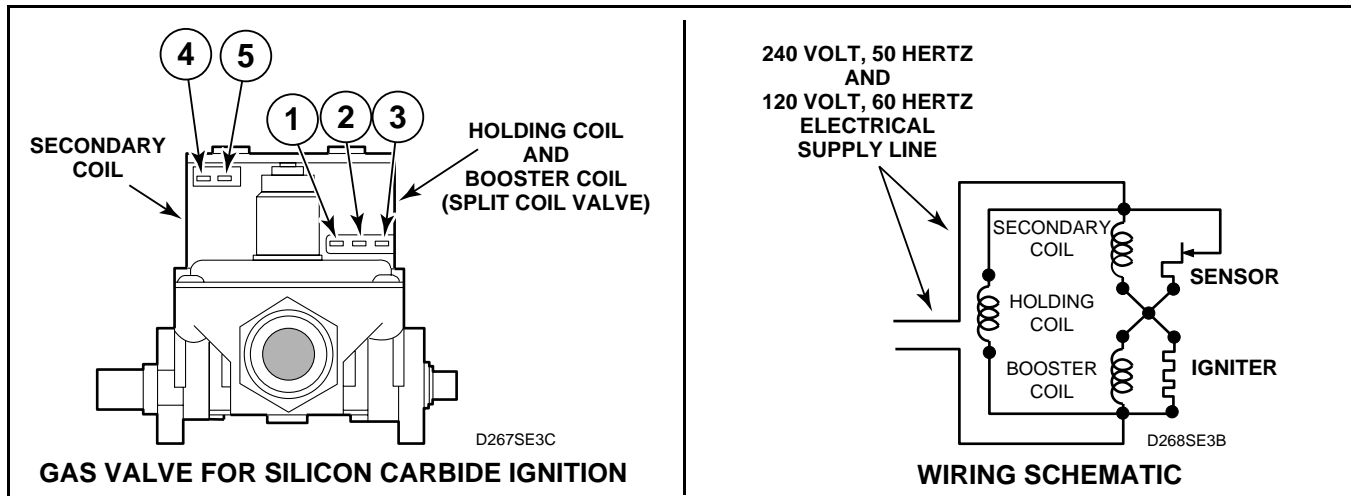

Figure 41
(Figure 41)
- d. Remove valve wire harness disconnect block from the holding and booster coil. See *Figure 41*.
- f. Set test meter to read AC voltage and apply meter probes into terminals on the dryer harness plug that would correspond to terminals 1 and 2 on the coil. See *Figure 41*. Meter should register line voltage in all Fabric settings, except FLUFF which should read “zero” VAC.